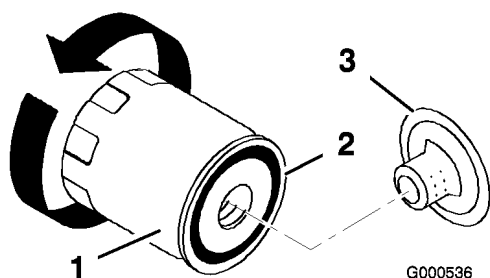

Figure 27
7. Change the oil filter, if necessary (Figure 27).
2. Remove the old filter and wipe the filter adapter gasket surface (Figure 27).
3. Apply a thin coat of clean oil to the rubber gasket on the replacement filter (Figure 27).
4. Install the replacement oil filter to the filter adapter. Turn the oil filter clockwise until the rubber gasket contacts the filter adapter; then tighten the filter an additional 1/2 to 3/4 turn (Figure 27).